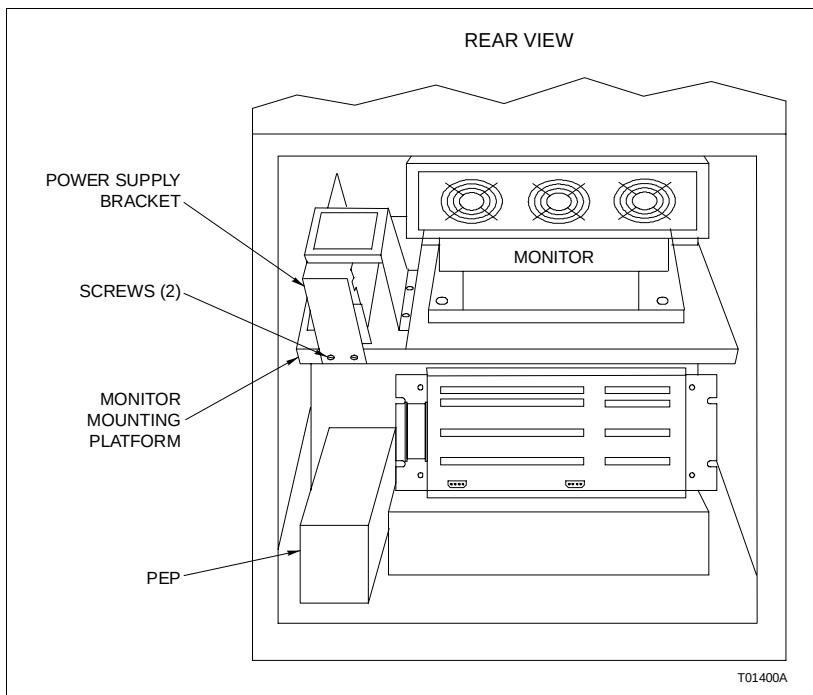

Figure PR25-2. Console Model Power Supply Installation
- ☐ 3. Use the bladed screwdriver to install the two screws that secure the power supply bracket to the monitor mounting platform (Fig PR25-2).